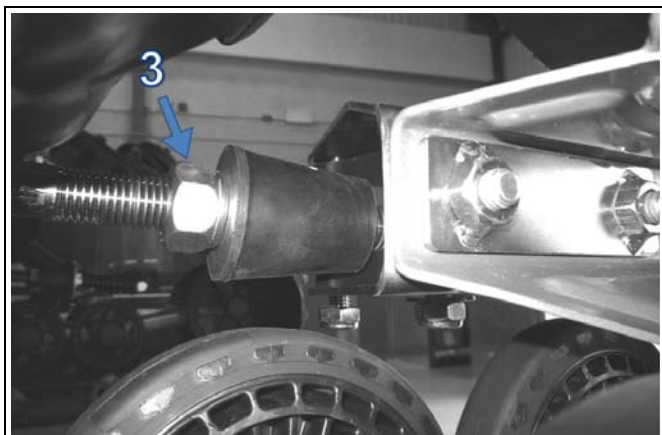

Figure 11
- Loosen the nut (3) compressing the rubber cone of the stabilizing rod. The nut does not apply pressure on the rubber cone (refer to Figure 11).